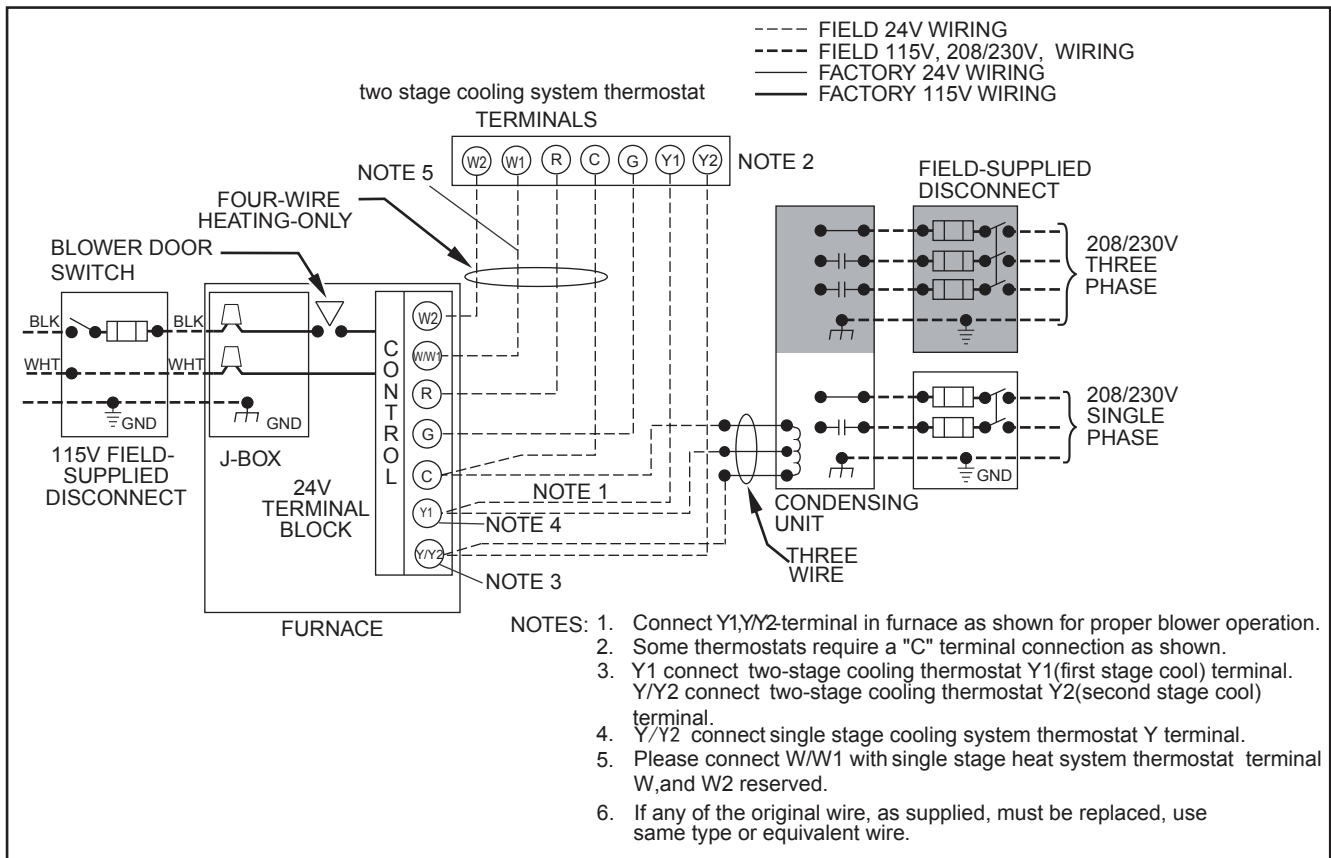

Fig.33 - Heating and Cooling Application Wiring Diagram with 2-Stage heatingThermostat
5. Connect line voltage leads as shown in Fig. 33.
- Complete electrical box wiring and installation. Connect line voltage leads as shown in Fig. 33. Use best practices (NEC in U.S. and CSA C22.1 in Canada) for wire bushings, strain relief, etc.
- Connect line voltage leads as shown in Fig. 33.
1. Maintain 115V wiring and ground. Improper polarity will result in rapid flashing LED and no furnace operation. (See Fig. 33)
2. Make thermostat wire connections at the 24-V terminal block on the furnace control. Failure to make proper connections will result in improper operation. (See Fig. 33)